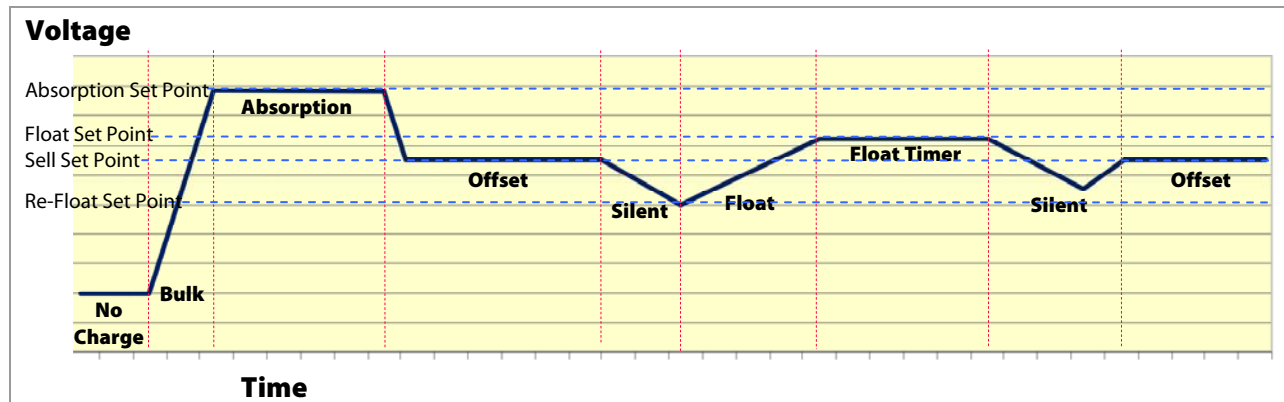

Figure 3 Charging Stages Over Time¹
- The process shown in Figure 3 also includes the step of selling power back to the utility, as this is integrally tied with the battery charger. This step, and Figure 3, are only applicable when the Radian inverter is in the **Grid Tied** input mode.
This is not a charging stage. The Offset function is designed to use excess battery energy to power the loads, even when an AC source is present. Offset can operate in any stage of charging, but is shown in Figure 3 to display the function when no charging stages or timers are active. This function is described more fully on page 19.
Offset is a constant-voltage mode of operation. The inverter cannot import current to charge the batteries to a target voltage, but it can export any excess current to constantly hold them at this value. The target voltage used when no other stages are active, as shown in Figure 3, is the **Sell Voltage** setting. (Excess current typically comes into the batteries from a PV array, wind turbine, or similar renewable energy source.)